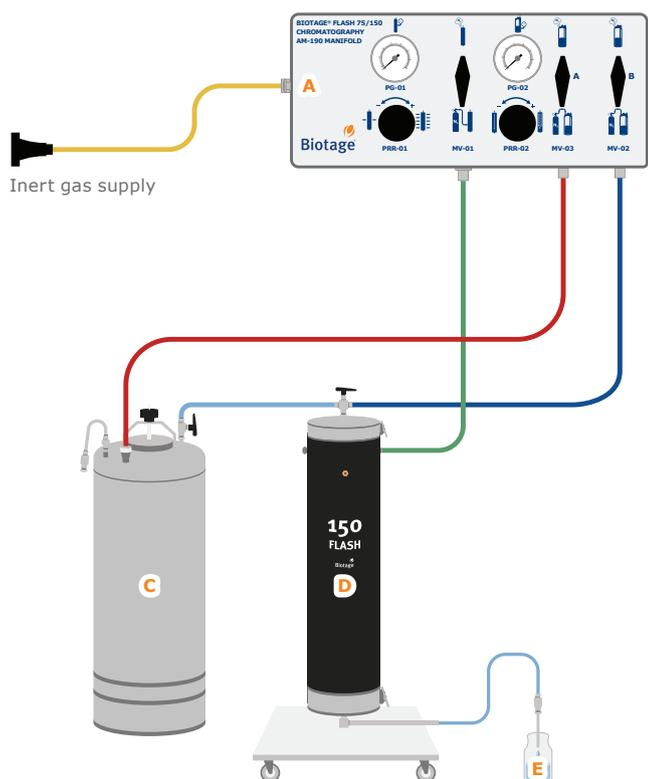

Figure 12. Schematics of a system without the sample injection module (SIM).
4. Connect all the tubing, except the fraction collection tube, as shown in the left schematic in Figure 13 or, if not using a SIM, as shown in Figure 12. The fraction collection tube is supplied with the grounding kit and is connected during the grounding of the system; see the instructions on page 12. Cut the tubing so that they are long enough for your setup. The system has both instant-tight fittings and fittings with nuts and ferrules, see the instructions below. Test the seal by pulling on the tubing.